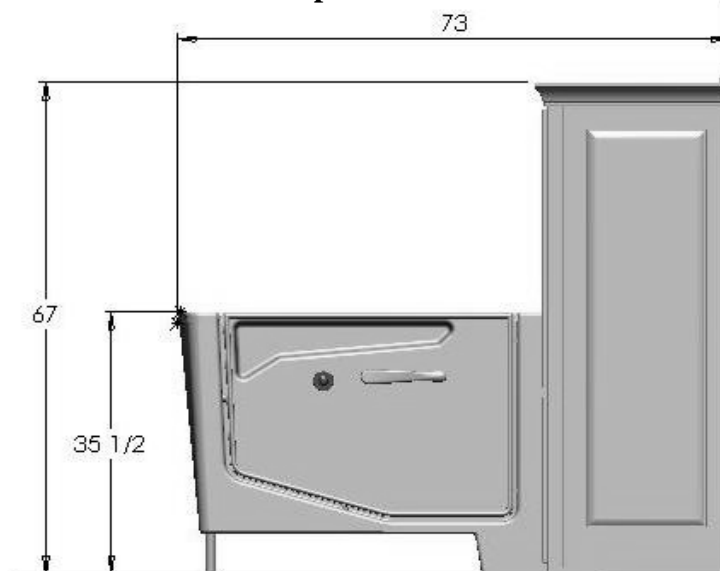

**Figure 12
1. Remove the cabinet's electrical box cover and locate the connecting points within the box. See figure 12.